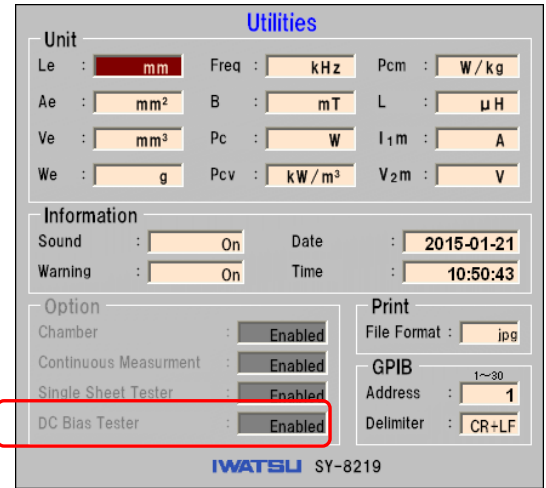

Fig. 4-17 Utilities screen
- (1) Press  to display the Utilities screen.
- (2) Check that DC Bias Tester of Option is Enabled. (See Fig. 4-17)
- (3) Press  or  to close the Utilities screen.